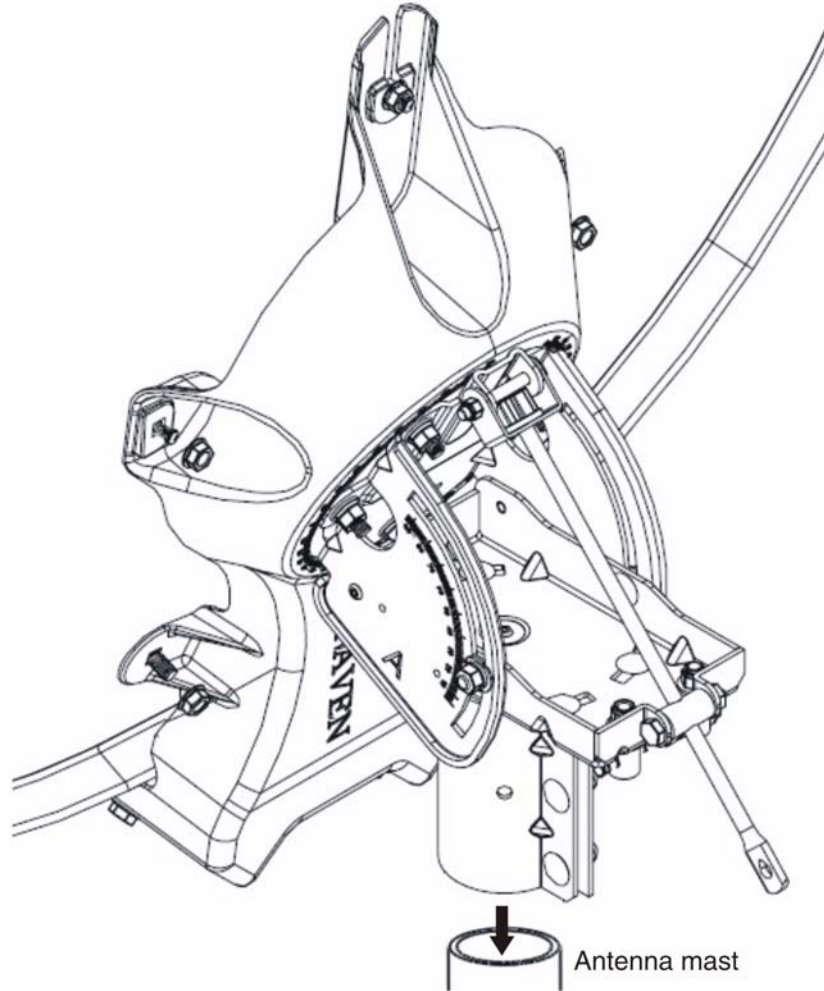

Figure 24: Installing the antenna assembly onto the mast
2. Slide the Az/EI mount assembly canister down onto the mast pipe as shown in Figure 24.